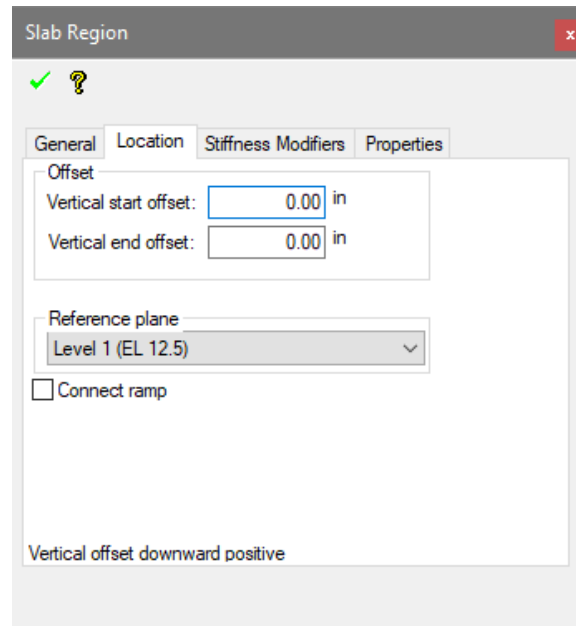

Figure 2-27
- Click on the *Location* tab of the *Slab Region* properties window. This will open the tab as shown in **FIGURE 2-27**.